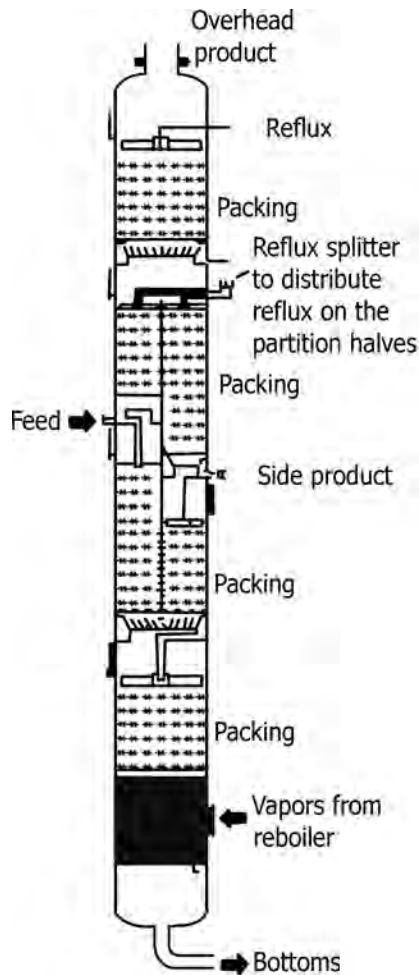

FIGURE 17.36 Details of a divided wall column (Montz).
- A vertical wall is introduced in the central part of the column, creating a feed and drawoff section in this part of the column (Figure 17.36).